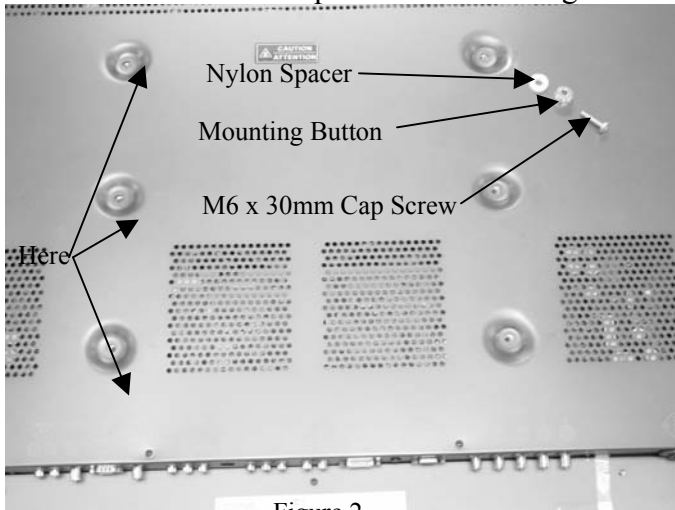

Figure 2
1. Attach six Nylon spacers and mounting buttons to plasma using six M6 x 30mm button head screws provided (see Figure 2).